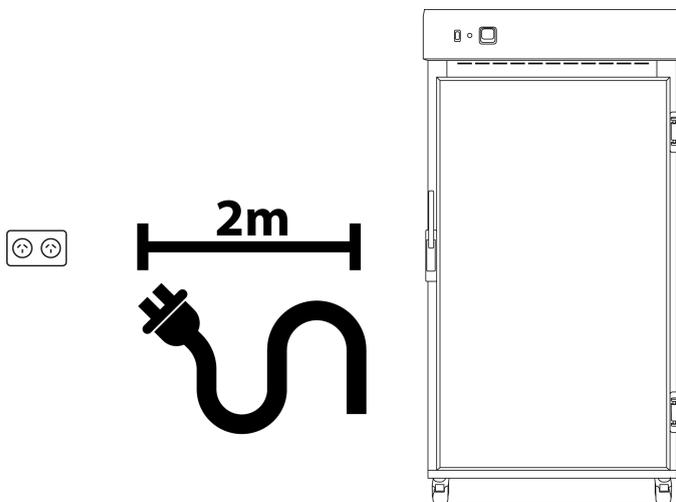

Fig 1. Suitable distance from power supply (2m)
- All TD-AS1681 volatile material ovens include a 2.5m removable mains power lead with a three-pin plug and right angle female IEC plug (straight plug for 15A). Ensure the product is reasonably distanced from the power supply. (**Fig 1**)